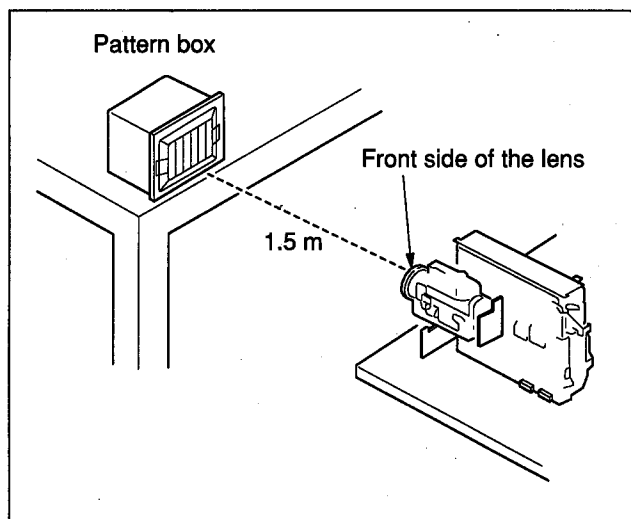

Fig. 6-1-2
- 1) Set the camera and pattern box as shown in Fig. 6-1-2.